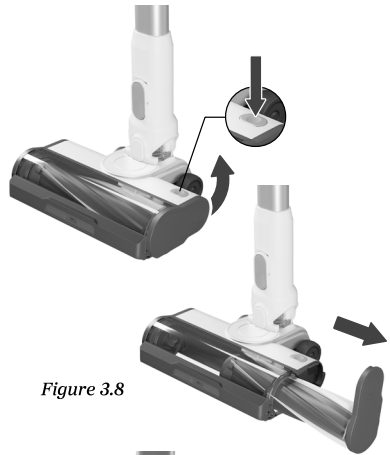

Figure 3.8
2. Press the Roller Brush Release Button, slide the side panel up to open, then pull out the roller brush. **[Figure 3.8]**